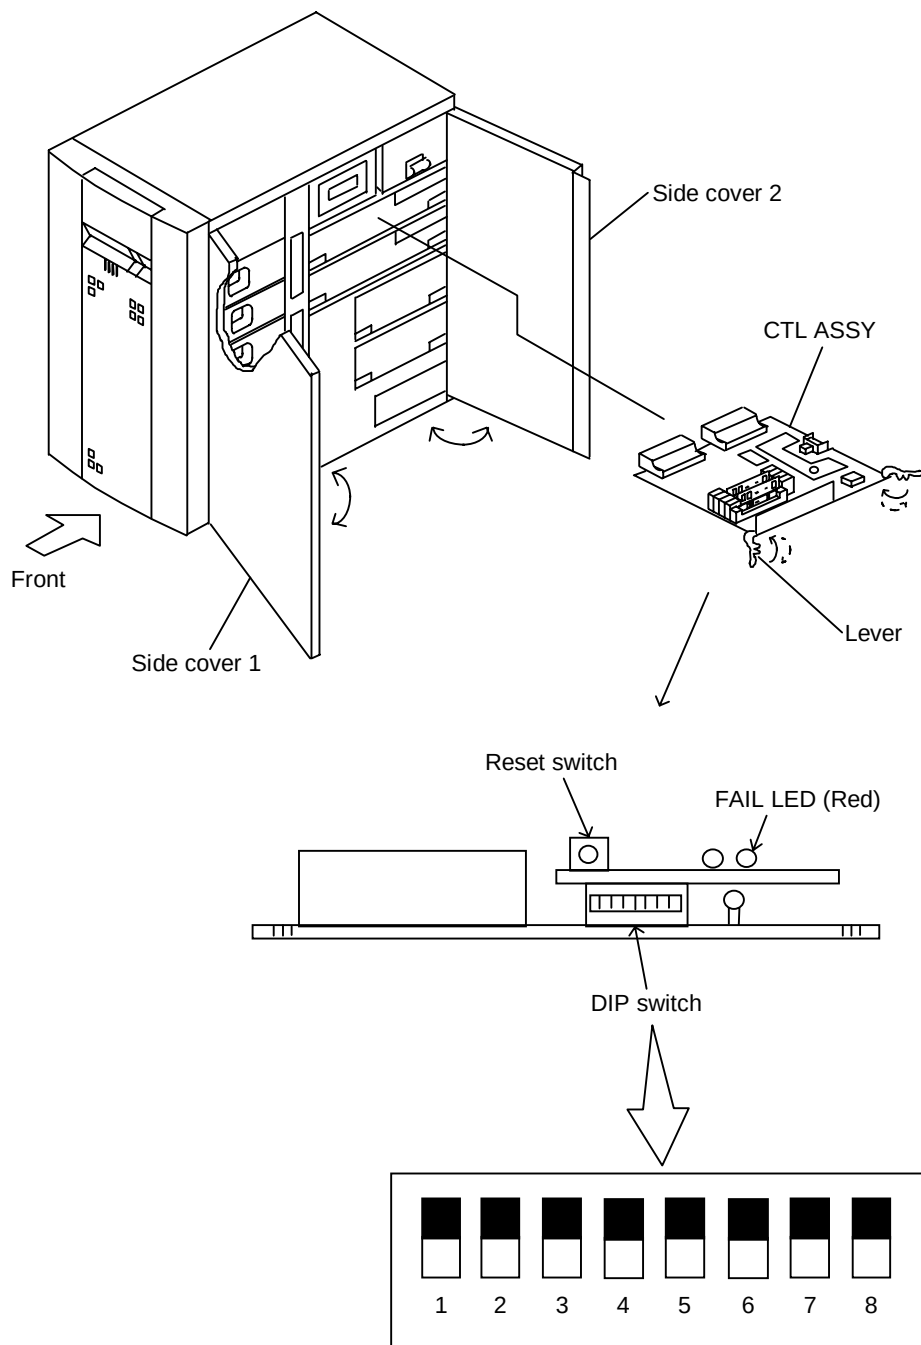

Figure 8.2.1 Replacing CTL ASSY
(1) Removing procedure
- ① First open the side cover 1 and then the side cover 2. (See MK-REP0160.)
- ② Disconnect the cables (RS232C).
- ③ Confirm the blocked CTL ASSY (with the FAIL LED turned on). (See Figure 8.2.1.)
- ④ Take out the CTL ASSY by pulling both levers on left and right side at the same time toward the directions shown by allows (·····➤)
- ⑤ Remove the CACHE ASSY. If the LAN ASSY is installed, also remove it.
(2) Installing procedure